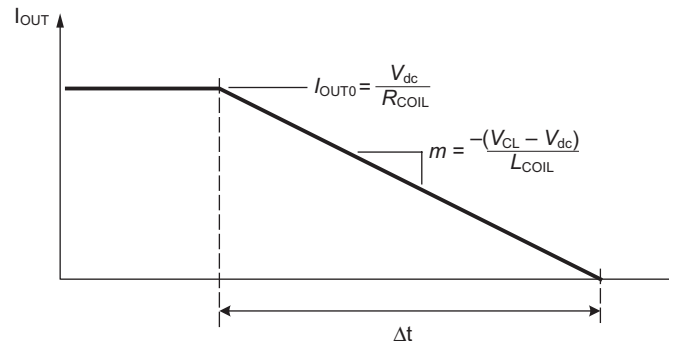

Figure 4. Output Voltage Clamping
(9) The output voltage is clamped to protect the driver. The active clamp works as follows. The voltage at the driver output is pushed high by the inductive current. Once the clamp voltage,  $V_{CL}$  , is reached, a Zener diode conducts current to the internal FET gate driver block. Therefore, the FET turns partially on, in order to limit any further increase in voltage at the output pin. The output is then held at this clamp voltage until the current decays to zero, as shown in figure 4.
(10) Energy loss in the chip,  $E$  , may be calculated as follows. Load coil resistance,  $R_{COIL}$  , is usually a significant value, but a worst case scenario takes  $R_{COIL} = 0$  for simplicity. With active clamping at  $V_{CL}$  , the output current (with initial value  $I_{OUT0}$ ) is driven low and the upper limit on energy loss in the driver is calculated as:
From figure 4: